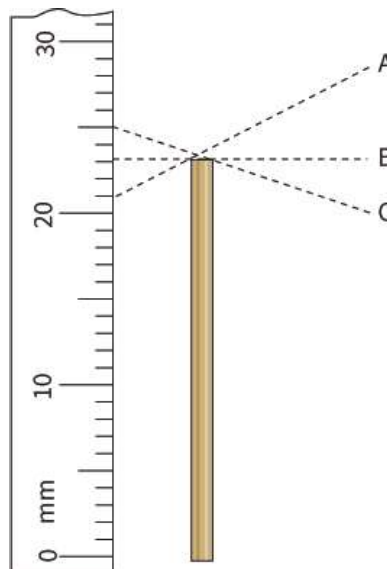
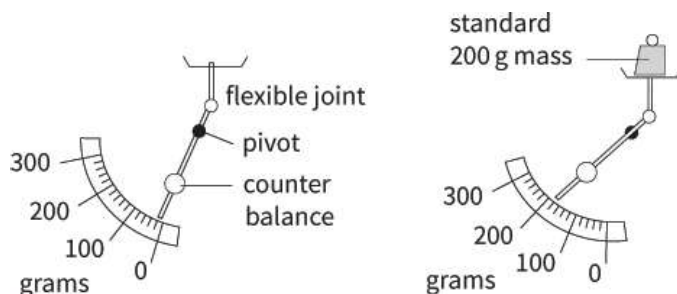

Figure P1.2: Parallax error.
Figure P1.8: The scales on a lever-arm balance.
If you use instruments incorrectly, you may introduce errors into your readings. For example, when taking a reading your line of sight should always be perpendicular to the scale that you are using. Otherwise, you will introduce a parallax error; this is shown in Figure P1.2. Looking from point A the length of the rod appears to be 21 mm, from point C it appears to be 25 mm and from point B, the correct position, the length is 23 mm.
Using the division on the scale – Look at the smallest division on the scale used for the reading. You then have to decide whether you can read the scale to better than this smallest division. For example, what is the uncertainty in the level of point B in Figure P1.2? The smallest division on the scale is 1 mm but is it possible to measure to better than 1 mm? This will depend on the instrument being used and whether the scale itself is accurate. In Figure P1.2, the width of the line itself is quite small but there may be some parallax error that would lead you to think that 0.5 mm or 1 mm is a reasonable uncertainty. In general, the position of a mark on a ruler can generally be measured to an uncertainty of ± 0.5 mm. In Figure P1.8, the smallest division on the scale is 20 g. Can you read more accurately than this? In this case, it is doubtful that every marking on the scale is accurate and so 20 g would be reasonable as the uncertainty.
- 4** Figure P1.8 shows a lever-arm balance, initially with no mass in the pan and then with a standard 200 g mass in the pan. Explain what types of error might arise in using this equipment.